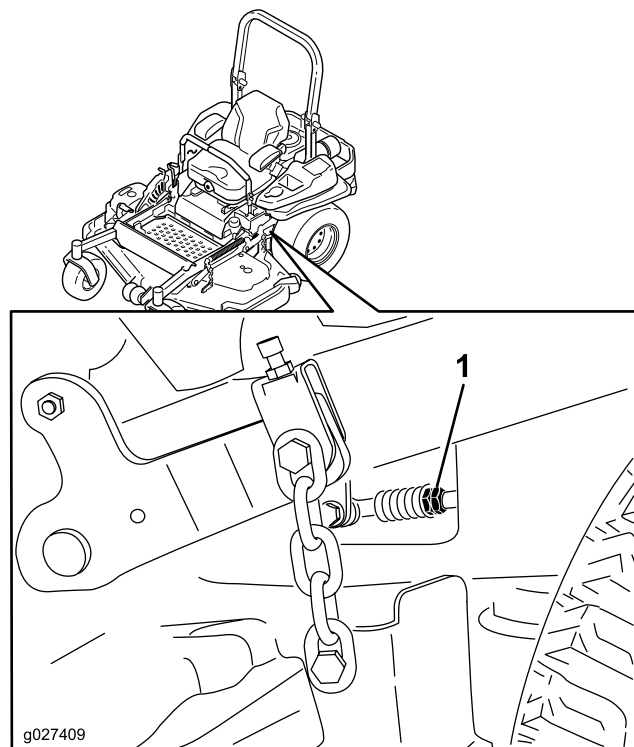

Figure 88
10. Adjust the pump-control-rod lengths by rotating the double nuts on the rod in the appropriate direction until the wheels slightly creep in reverse (Figure 88).